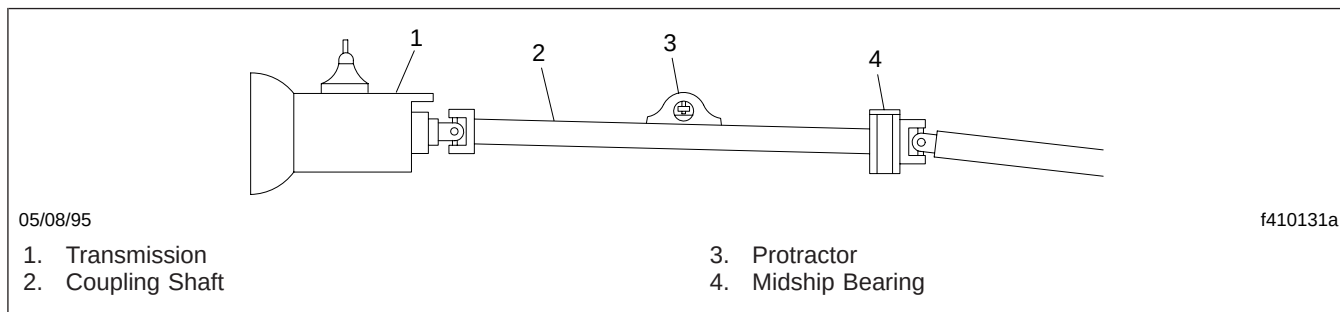

Fig. 1, Coupling Shaft Angularity
2. If the driveline includes a midship bearing, place a protractor on top of the coupling shaft. Align the protractor with the shaft centerline. See Fig. 1. Read the scale to the nearest one-tenth of a degree (6 minutes). The centerline of the coupling shaft must be $1/2$ degree out of vertical alignment with the transmission output shaft. See Fig. 2. Compare this reading with the measured engine angle.